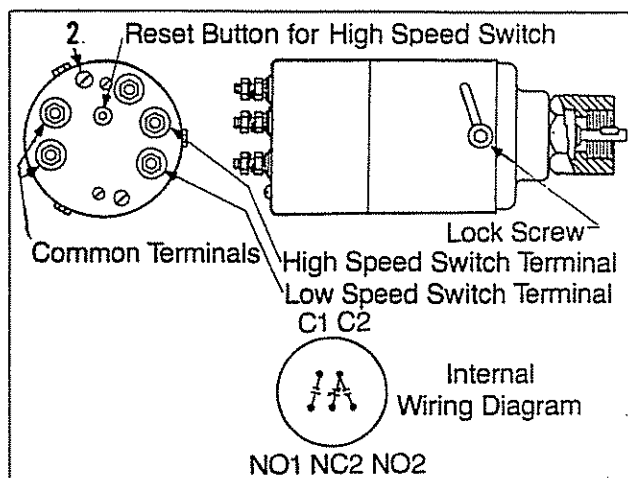

Fig. 1-27 (OM21003). Double speed switch
- a. Remove the round head dust cover screw marked 2 from the top of the switch, Figure 1-27.